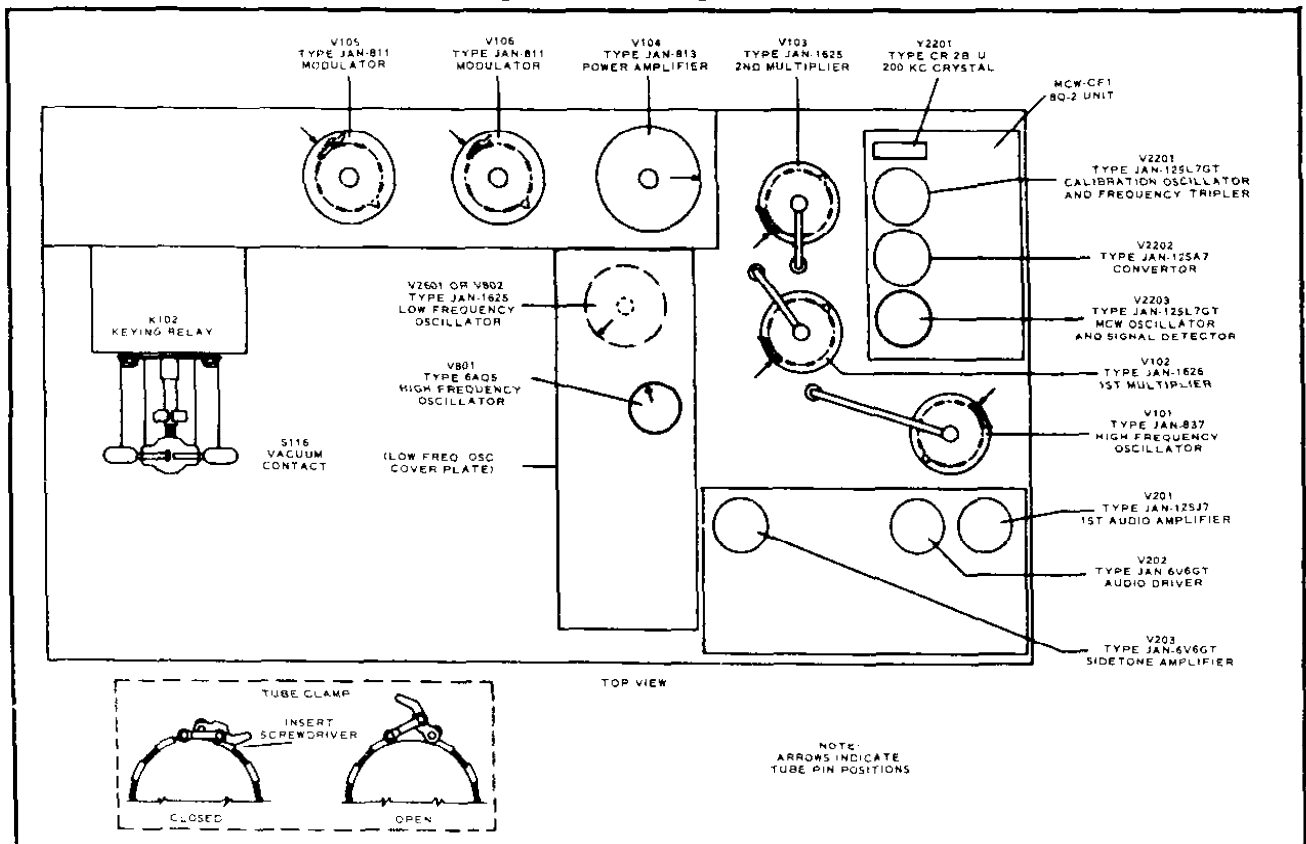
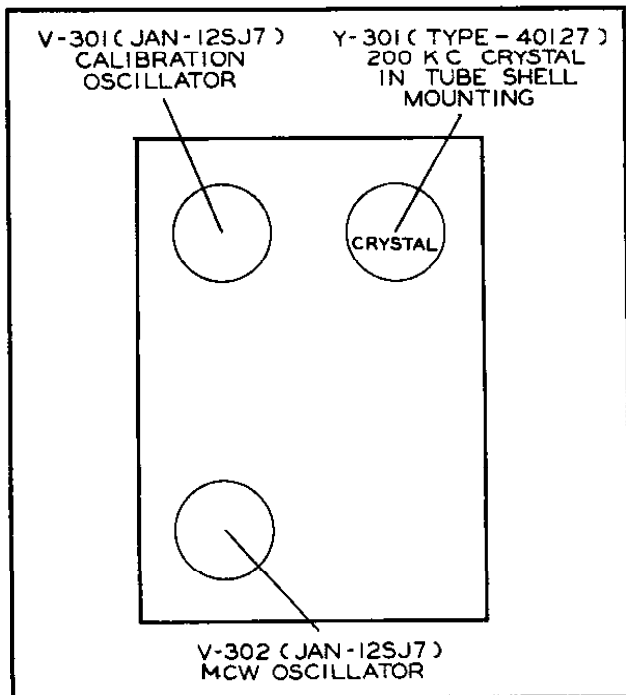

Figure 2-1—Radio Transmitter T-47A/ART-13 and Oscillator O-17/ART-13A (or Oscillators O-16/ART-13 or CDA-T)—Tube Placement Diagram
Figure 2-2—MCW-CFI 8Q-1 Unit—Tube Placement Diagram
1. Make sure the crystal is in the proper position and clamped securely in place. (See fig. 2-1 when MCW-CFI 8Q-2 Unit is used; see fig. 2-2 when MCW-CFI 8Q-1 Unit is used).
2. Make sure all tubes are mounted securely in the sockets and that tubes JAN-811, JAN-1625, and JAN-837 are locked properly. (See fig. 2-1 or 2-2.)
(see fig. 2-1)